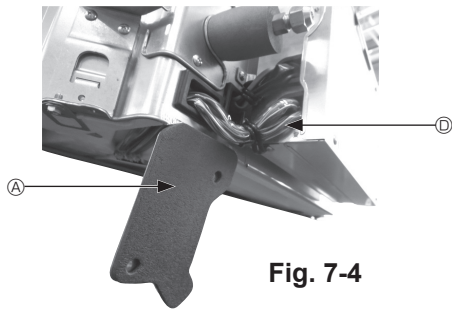

Fig. 7-4
- ① Remove the two screws securing the wire cover of the main unit, and then open the cover.
- ② Route the wires of the i-see Sensor and signal receiver through the wire inlets in the electric component box as shown in the diagram and around the bushings on the side of the main unit. (Fig. 7-4)